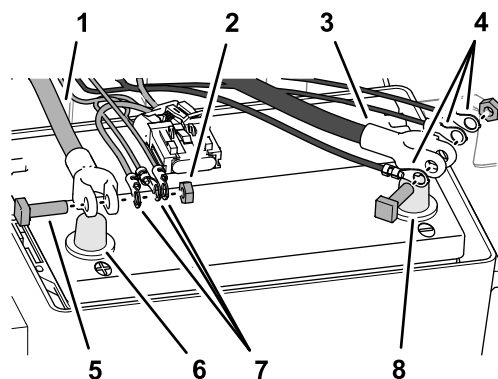

Figure 97
1. Route the positive terminal (red wire), negative terminal (black wire), and fuses block (50 A) of the rear wire harness up between the battery box and the chassis of the machine (Figure 97).
4. Remove the T-bolts and hex nuts from the terminals of the positive and negative battery cables (Figure 97).
5. Assemble a T-bolt through the positive terminal (red wire) of the rear wire harness, the positive terminal of the navigation-electrical harness, modem power harness, and terminal of the positive battery cable (Figure 97).
6. Loosely secure the terminals and the T-bolt with a hex nut (Figure 97).
7. Assemble a T-bolt through the negative terminal (black wire) of the rear wire harness, the negative terminal of the navigation-electrical harness, modem power harness, and terminal of the negative battery cable (Figure 97).
8. Loosely secure the terminals and the T-bolt with a hex nut (Figure 97).
1. Connect the positive (red) cable to the positive (+) battery post, and tighten the nut; refer to Figure 97 in [Assembling the Rear GeoLink Harness, Navigation-Data and Electrical Harness, and Modem Power Harness to the Battery Cables](#) (page 35).
2. Connect the negative (black) cable to the negative (-) battery post, and tighten the nut; refer to Figure 97 in [Assembling the Rear GeoLink Harness, Navigation-Data and Electrical Harness, and Modem Power Harness to the Battery Cables](#) (page 35).